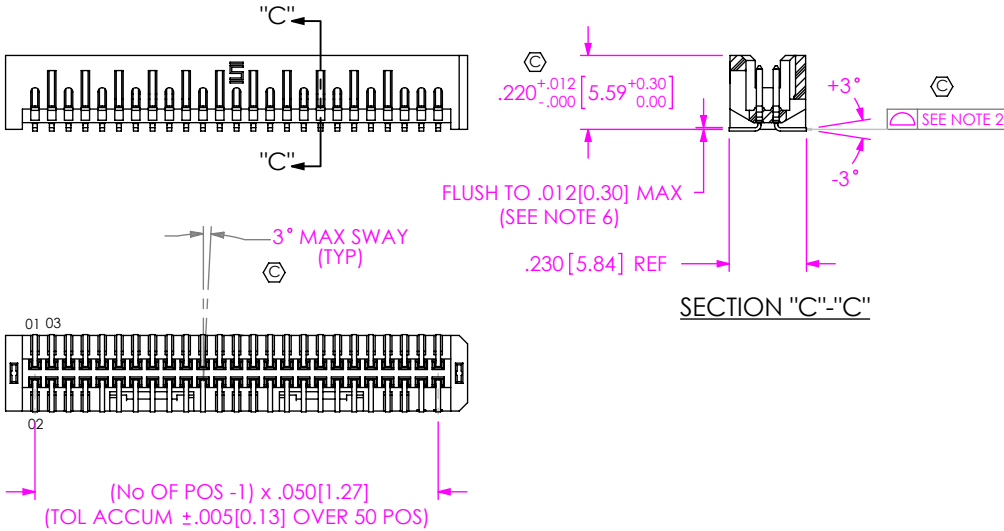

FIG 5
- P: PICK & PLACE PAD (USE PPP-72 FOR -05 & -07. USE PPP-04 FOR -10 THRU -50) (AVAIL IN ALL POSITIONS, N/A ON -RA OPTION, SEE FIG 5, SHT 2)